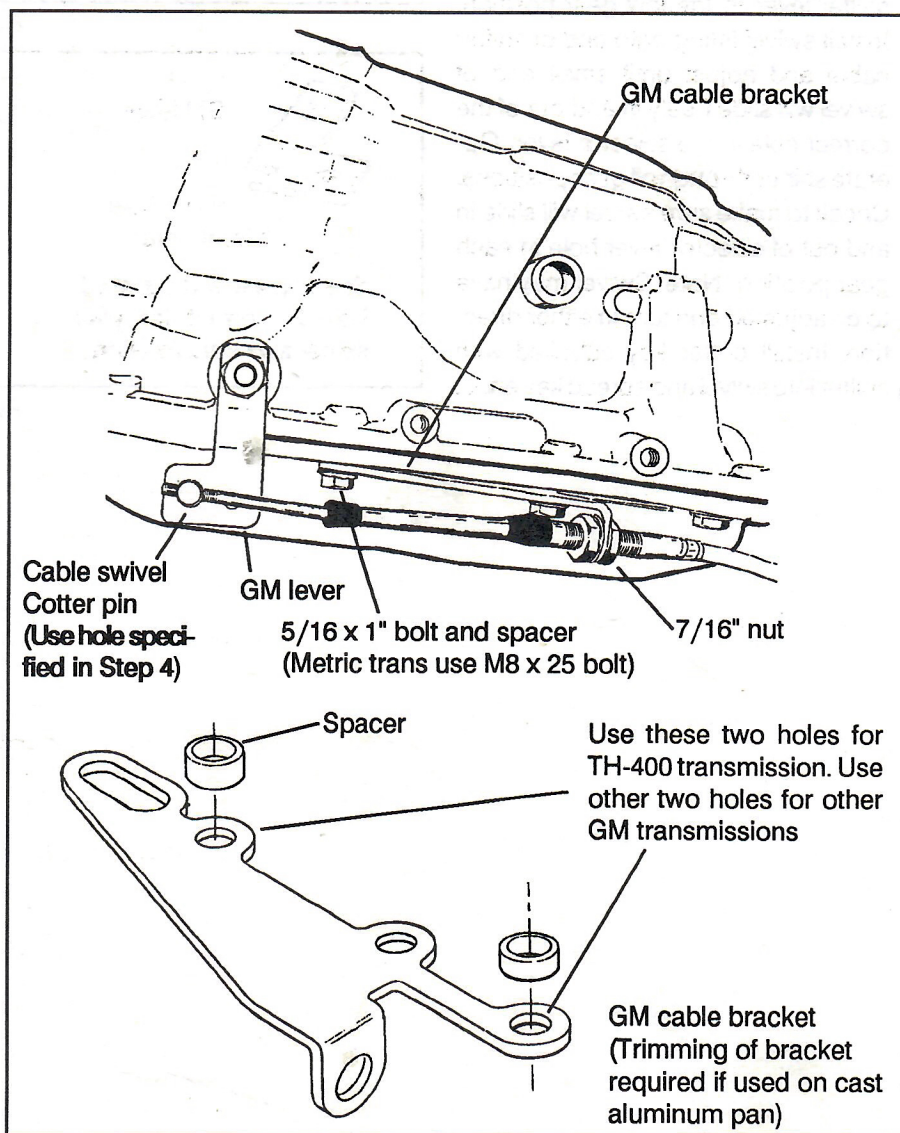

Figure 1
STEP 1. Remove two transmission oil pan bolts from the middle of the left side of the oil pan. Install cable bracket in position, see figure 1.) The bracket must be installed with two spacers between the pan and bracket. (If your transmission is equipped with a cast aluminum oil pan, these spacers should be omitted however the cable bracket may have to be modified.) Install the two 5/16-18x1.00" bolts (Metric transmissions use the two 8mm x 25mm bolts) supplied and tighten 12-13 ft. lbs. Do not overtighten as this can damage pan gasket.